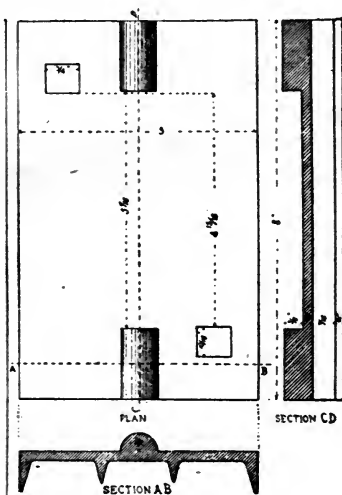

FIG. 2.
Tie Plate shown herewith (Fig. 2) is a five-inch plate, having four (4) under flanges, with a rail seat cut to fit the rail flanges on the upper surface of the plate.
Fig. 2 shows a well-designed tamping pick weighing 8 pounds. It is 25 inches long, with an eye  $3 \times 2$  inches and a tamping face of  $2\frac{1}{2} \times \frac{3}{4}$  inches. They are made of solid steel, solid eye and are warranted in temper and quality.